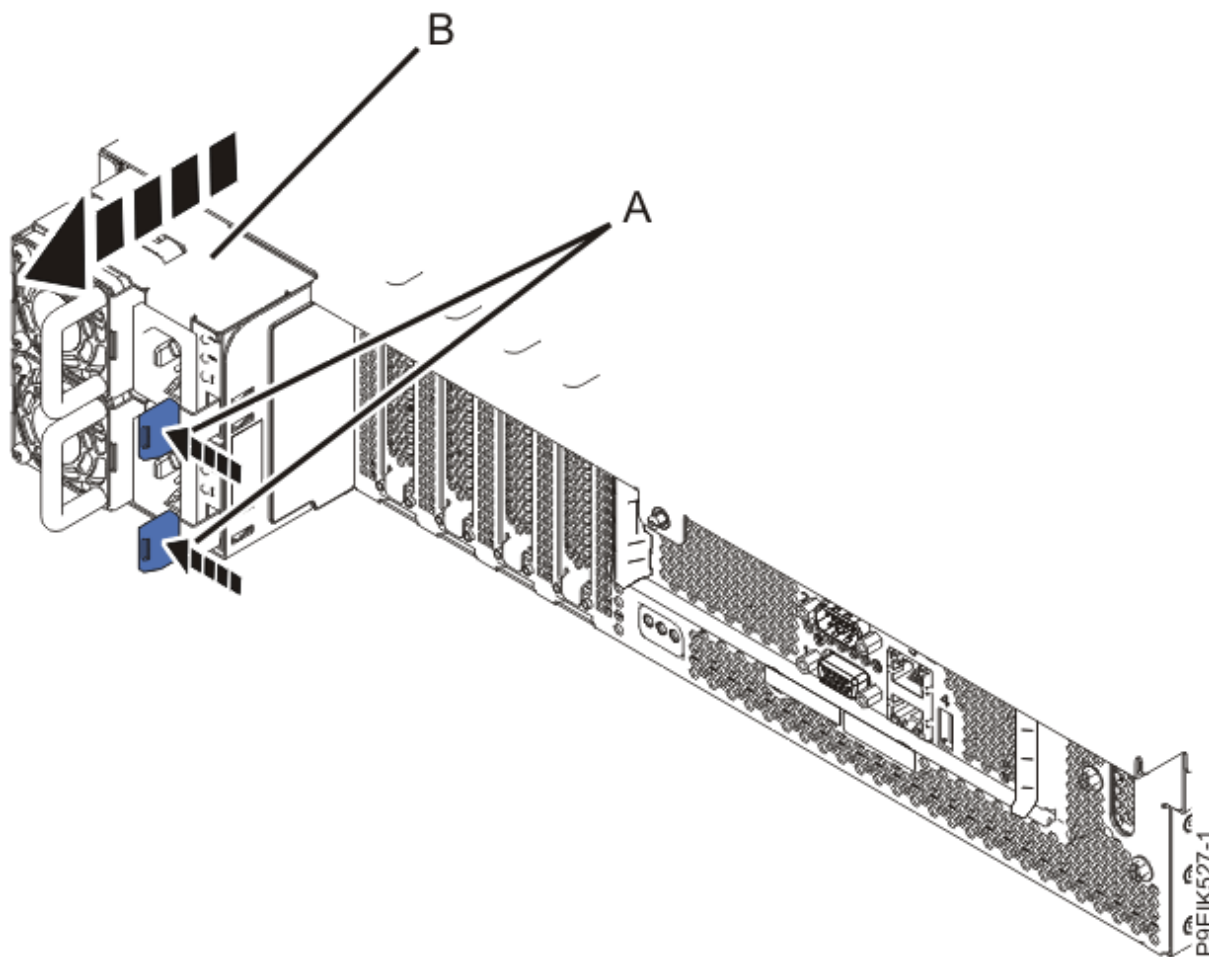

Figure 193. Removing the power supplies from the system
9. Remove the power supplies from the system as shown in Figure 193 on page 219.